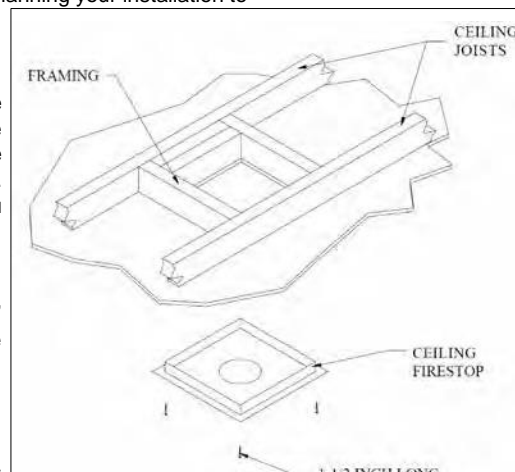
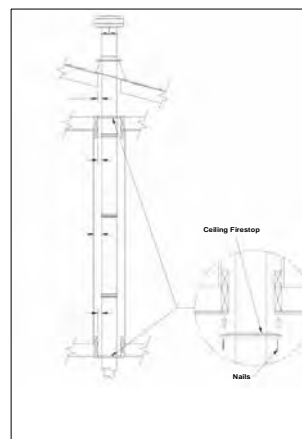

Figure 40: Installation of Ceiling Firestop.
Figure 43: Installation of Ceiling Fire Stops.
- Step 3.** To install the Ceiling Firestop in a flat ceiling, cut a square hole in the ceiling 11" x 11" (280x280mm) square for 8" x 5" pipe, centered on the hole drilled in Step 2. Frame the hole as shown in Figure 40.
- (1) For multi-story vertical installations, a Ceiling Firestop is required at any subsequent floors (as shown in Figure 43). The opening should be cut and framed in the same manner as the opening in Step 3 (see Figure 40).
- (2) Any occupied areas above the first floor, including closets and storage spaces, which the vertical vent passes through, must be enclosed. The enclosure may be framed and sheet rocked with standard construction materials, however minimum allowable clearances between the outside of the vent pipe must be maintained. Do not fill any of the required air spaces with insulation.